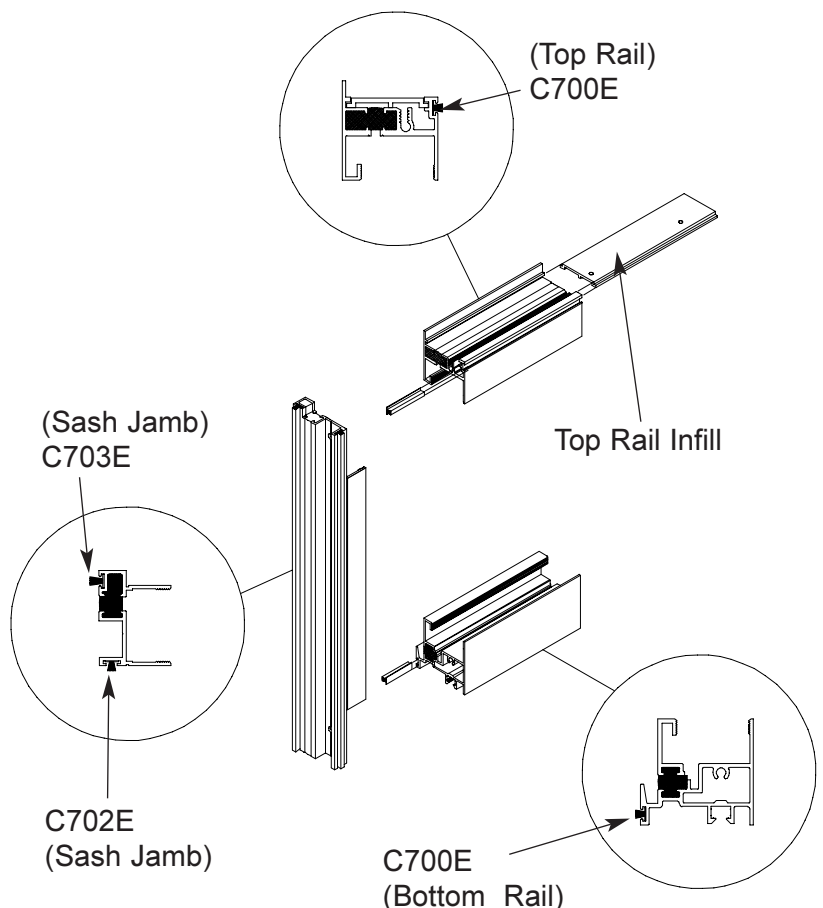

Fig. 8
- Standard kits should have the correct woolpile fitted within each component, it is advisable to check it has not fallen out. Top and bottom rail should have C700E fitted, with the vertical sash jambs having C703E and C702E. Refer to fig 8.